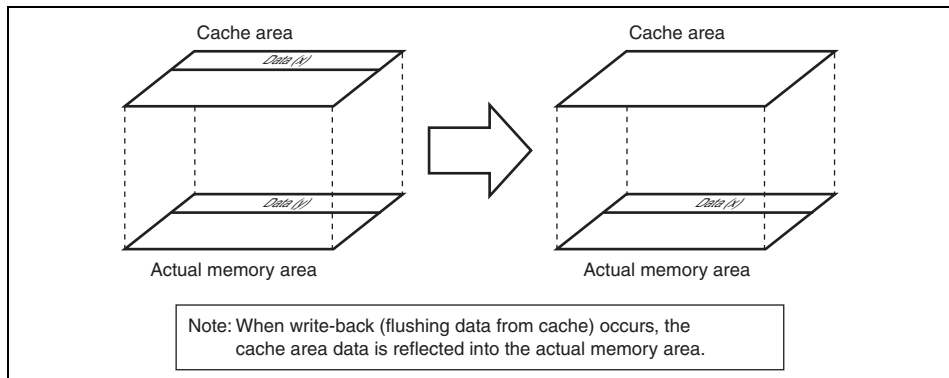

Figure 4.4 Overview of Write-Back Mode
<p>Answer</p> <p>There is nothing that needs special care, except for the coherency.</p> <p>For example, when writing data through the program and then transferring the data through the DMAC, use either of the following procedures.</p> <p>(1) Allocate the address where data is to be written through the program to a cache through area (write data by bypassing the cache).</p> <p>(2) Create a function to write the cache contents back to the memory, call the function after data is written, and then perform DMA transfer.</p> <p>When transferring data through the DMAC and then reading the data through the program, use either of the following procedures.</p> <p>(1) Read data from an address allocated to a cache through area (read data by bypassing the cache).</p> <p>(2) Create a function to invalidate the cache contents, call the function, and then read the data transferred by the DMAC from an address allocated to a cache through area.</p> <p>The overview of write-back mode is shown in figure 4.4.</p>
- (1) Allocate the address where data is to be written through the program to a cache through area (write data by bypassing the cache).
- (2) Create a function to write the cache contents back to the memory, call the function after data is written, and then perform DMA transfer.
The overview of write-back mode is shown in figure 4.4.